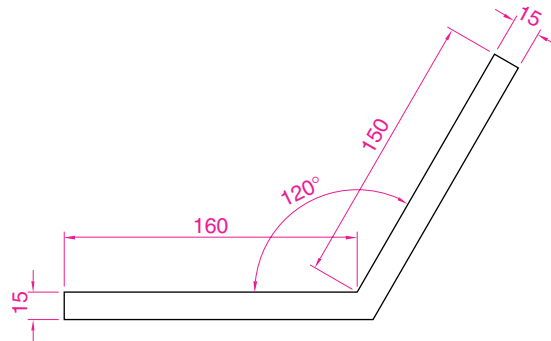

Fig. 17.5 First example –
1. Set **UCSFOLLOW** to 1 (ON).
3. Construct the pline outline in Fig. 17.5 and extrude to a height of 120.